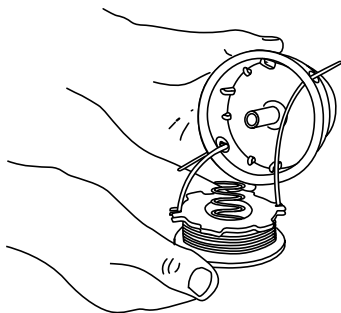

Fig. 19
9. Place the spring in the inner reel. Insert the ends of the line through the eyelets in the outer spool and place inner reel inside the outer spool (Fig. 19). Push the inner reel and outer spool together. While holding the inner reel and outer spool together, grasp the ends and pull firmly to release the line from the holding slots in the spool.